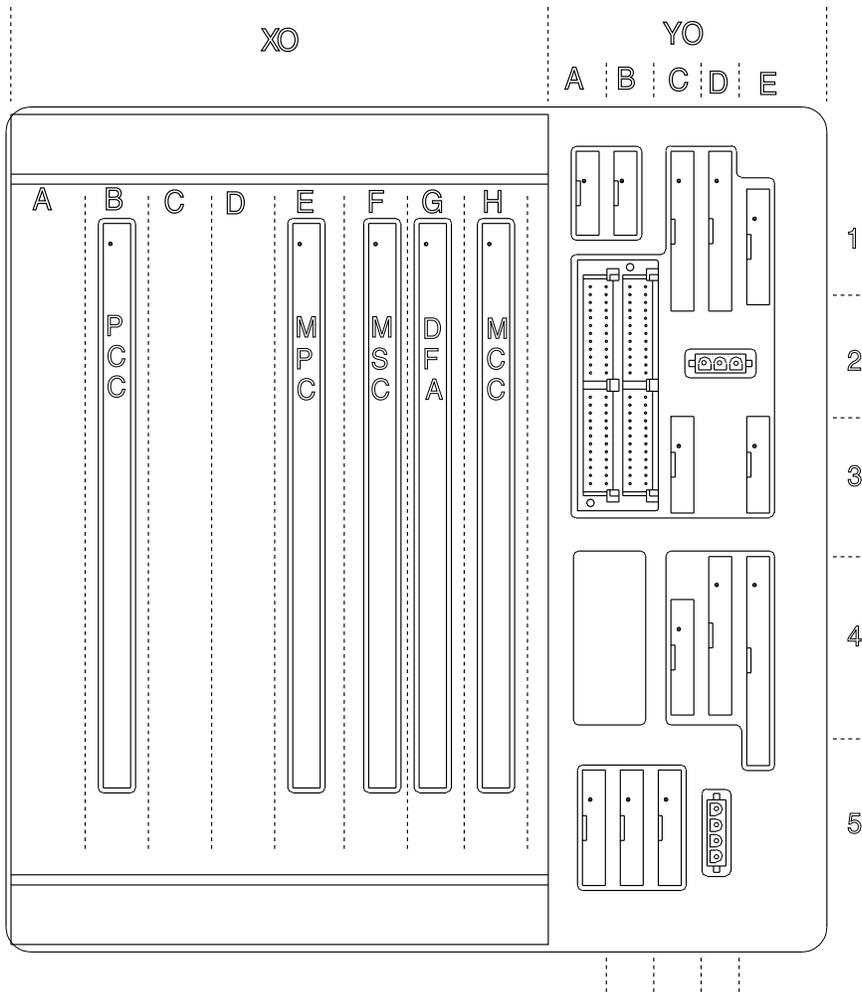

Figure 4-127. MOSS Board Cards and Cables
8. **Refer to Figure 4-127 .**
4. Reconnect the cables and the cassettes in their correct location according to their labels. Refer to Figure 4-127 on page 4-93.